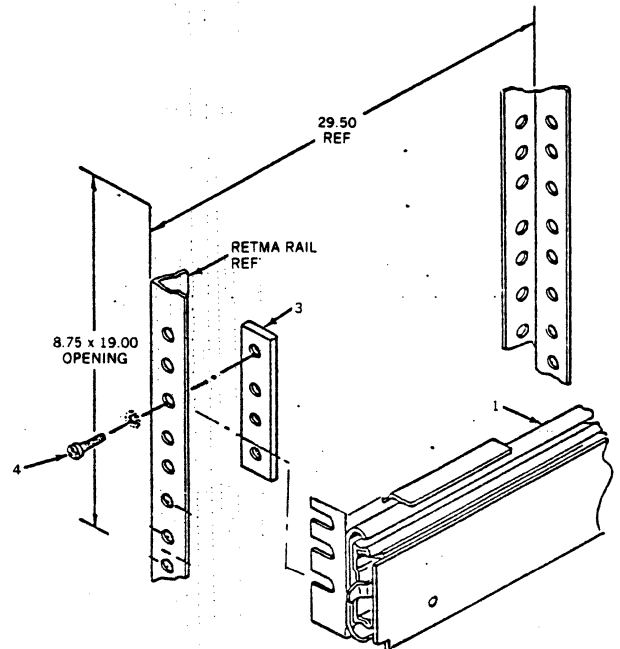

Figure 7-11. ACCURIDE Slide Mounting
- Loosely mount the left front NUT BAR (3) at the desired height. See Figure 7-11.
- Place left slide front mounting bracket between the RETMA Rail and the NUT BAR (3).